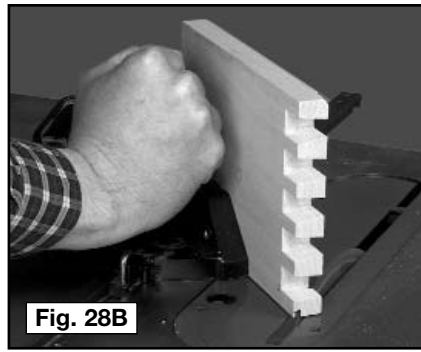

Fig. 28B
**Step 2** - Use a table saw with the miter gauge set to 45° to miter the squared-off half pin (Figs. 28B and 28C).